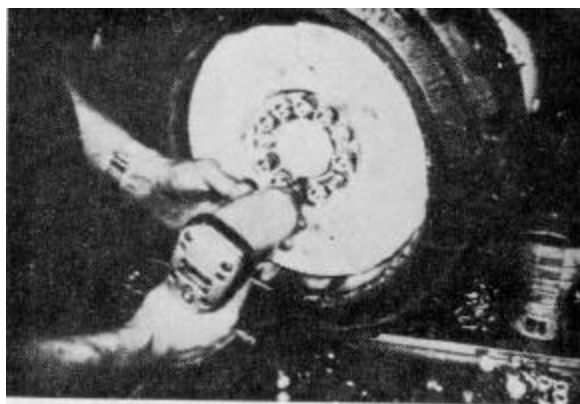

Figure 5-11
Follow the procedure on page 5-4 , steps 1 and 2 (Fig. 5-11 and 5-12).
1. Remove the twelve nuts, lockwashers and six conical dowels (if provided) from the final drive gear studs, using a three-quarter inch, deep socket or a standard socket with a two inch extension, attached to a one-half inch drive, sixteen inch long breaker bar. Fig. 5-11 illustrates removal of the wheel nuts using an air driven impact gun.